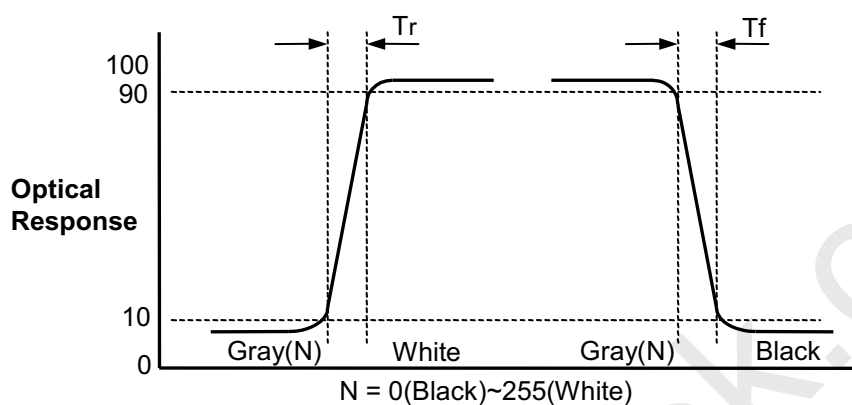

FIG. 2 Response Time
- 2. Response time is the time required for the display to transit from any gray to white (Rise Time,  $\text{Tr}_R$ ) and from any gray to black (Decay time,  $\text{Tr}_D$ ). For additional information see the FIG. 2.